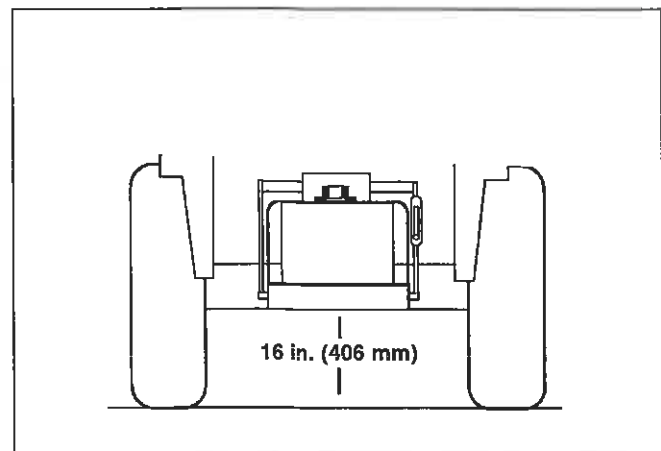

figure 19
9. Raise the hitch until the dimension from the slot in the center of the swing plate to the ground measures 16 in. (406 mm). See figure 19.